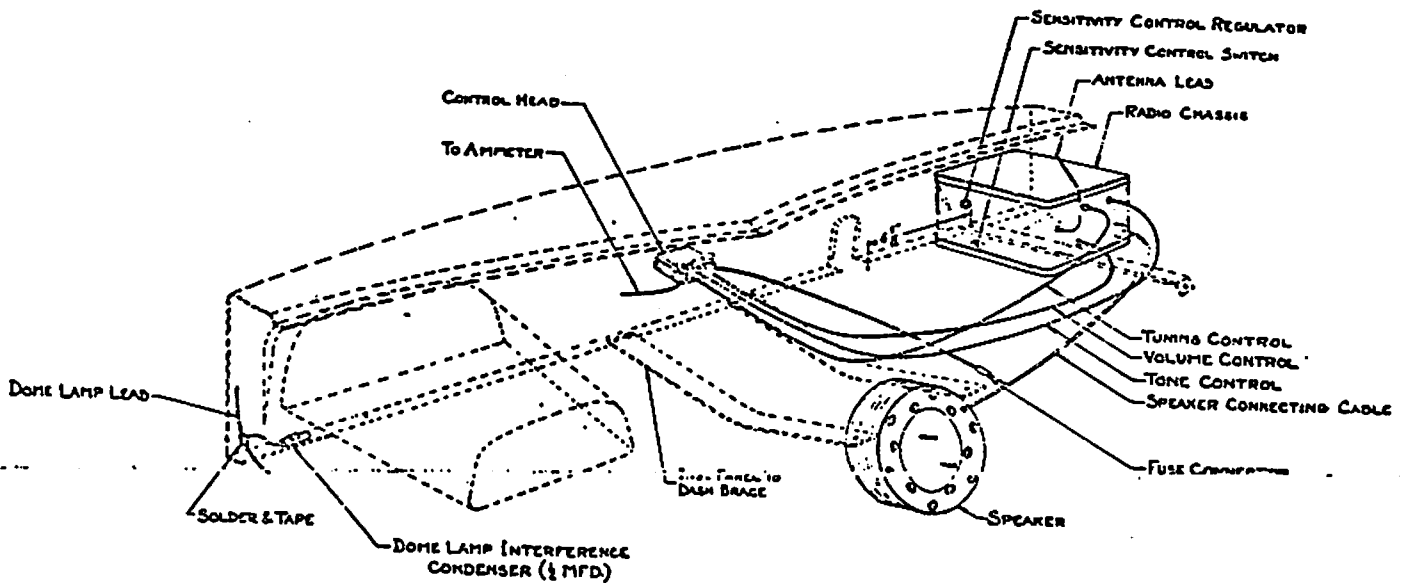

FIGURE 1
(See Figure 1)
3. Drill a $\frac{1}{4}$ " hole in the flange of the instrument board $6\frac{5}{8}$ " to the left of the steering column opening in the instrument board. (See Fig. 1).
Place the speaker mounting template in the center of the dash with the notched corners fitted to the instrument board to dash braces where they leave the dash. Locate and drill two $\frac{3}{4}$ " holes through the dash and mount the speaker. (See Fig. 1). Connect the speaker cable plug in its receptacle on the Receiver housing (see Fig. 1). Keep the edge of the plug marked "bottom" at the bottom.
Connect the three flexible control shafts in their respective couplings on the back of the Receiver. (See Figure 1).
Connect the antenna lead in its receptacle on the Receiver housing. (See Figure 1).
d. Connect a $\frac{1}{2}$ mfd. (small) condenser to the dome light lead as close as possible to the point where it enters the right hand "A" pillar. This connection must be soldered and taped. Drill a $\frac{1}{8}$ " hole in the flange of the instrument board as far to the right as possible and install the condenser. (See Figure 1).
The sensitivity control switch is located on the bottom of the Receiver adjacent to the steering column, the sensitivity control is on the right side of the Receiver. (See Figure 1).